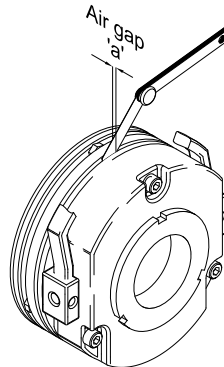

Figure 52 – Checking Traverse Brake Air Gap
The air gap 'a' (between the stator (5) and the armature plate (1)) should be checked in at least three positions around the circumference of the brake using non-magnetic feeler gauges (Figure 52). The air gap should not exceed the maximum air gap of **0.6mm**.